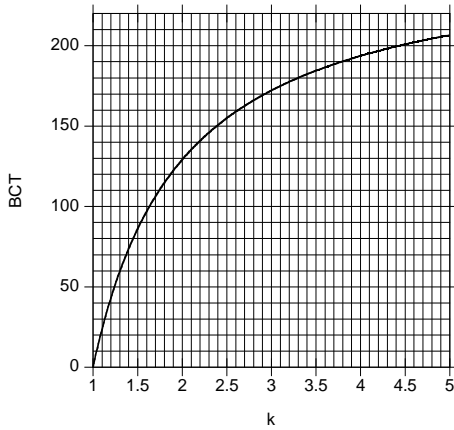

Figure 29: Relationship Between the *k* Ratio and the Optimal BCT to Recover Linearity
Figure 29 on page 32 plots Equation (9).